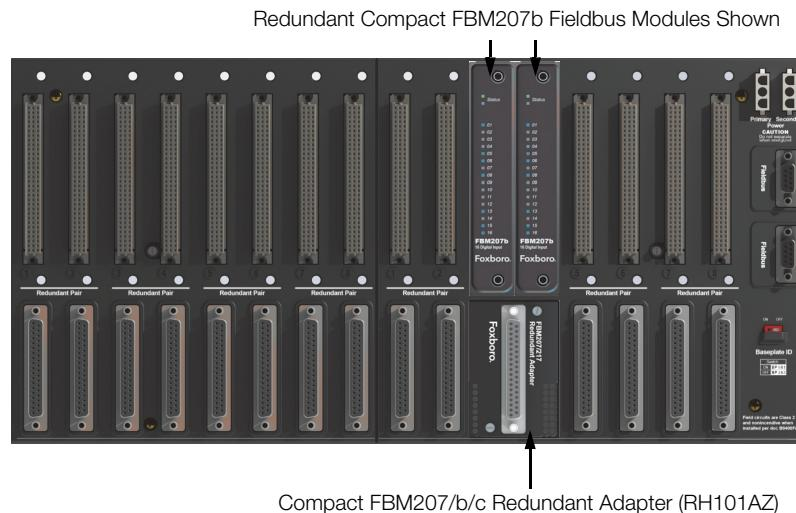

Figure 1. Compact FBM207/b/c Redundant Module Configuration
Redundant modules must be located in adjacent positions on the baseplate, with the first module located in an odd-numbered position (for example, the positions labelled "3" and "4"). To achieve redundancy, a redundant adapter module is placed on the two adjacent baseplate termination cable connectors to provide termination for a single cable (see Figure 1). A single termination cable connects from the redundant adapter to the associated termination assembly (TA).